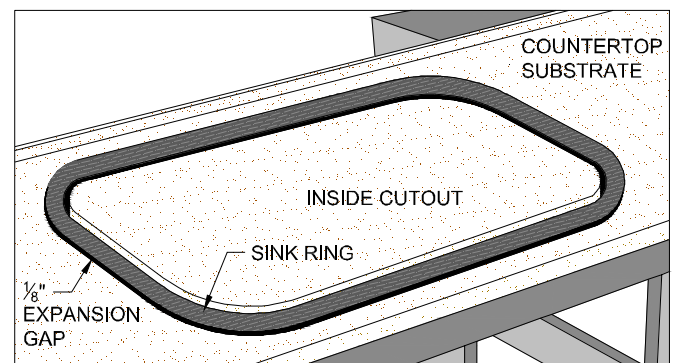

Figure 3B
- Apply the WA8230 - LS Sink Seam Adhesive to the sink ring (FIG. 3B)